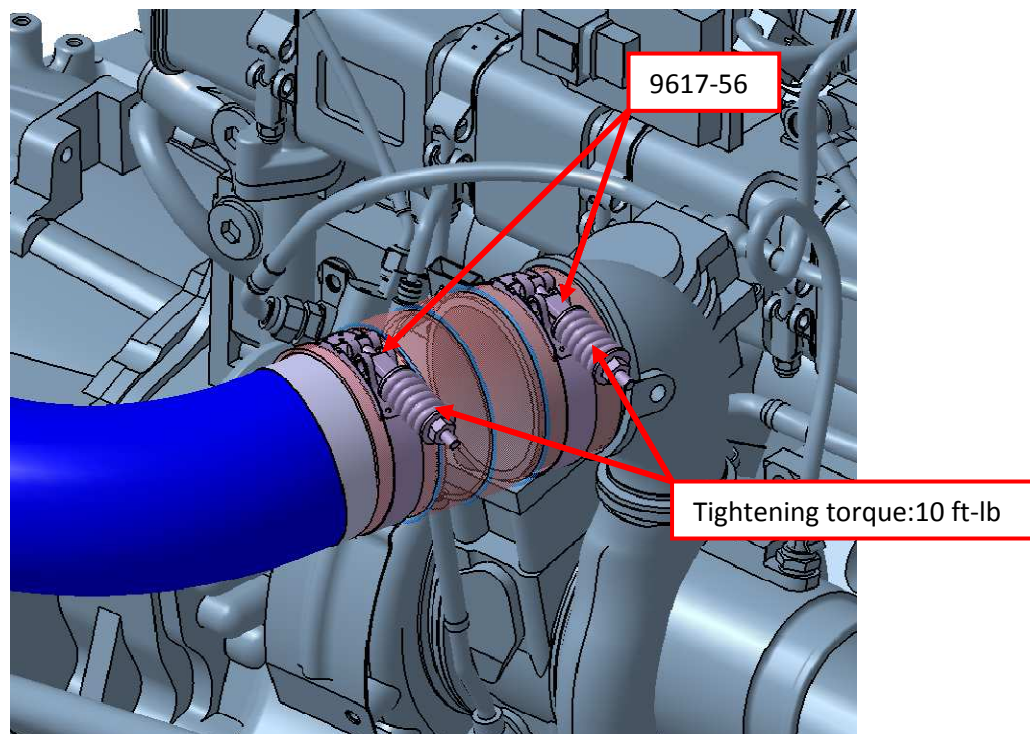

Figure-2
- 2- Replace the clamps indicated below with the new clamps.(Turbo outlet) (see. **Figure-2**).